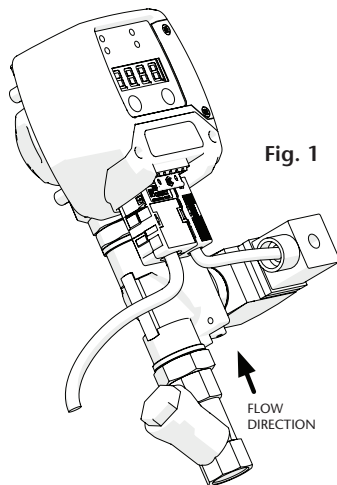

Fig. 1
### CONNECTION TO HYDRAULIC SYSTEM (FIG. 1)
- In figure 1 a typical installation is shown, which may vary according to particular cases.
### CONEXIÓN A LA RED HIDRÁULICA (FIG. 1)